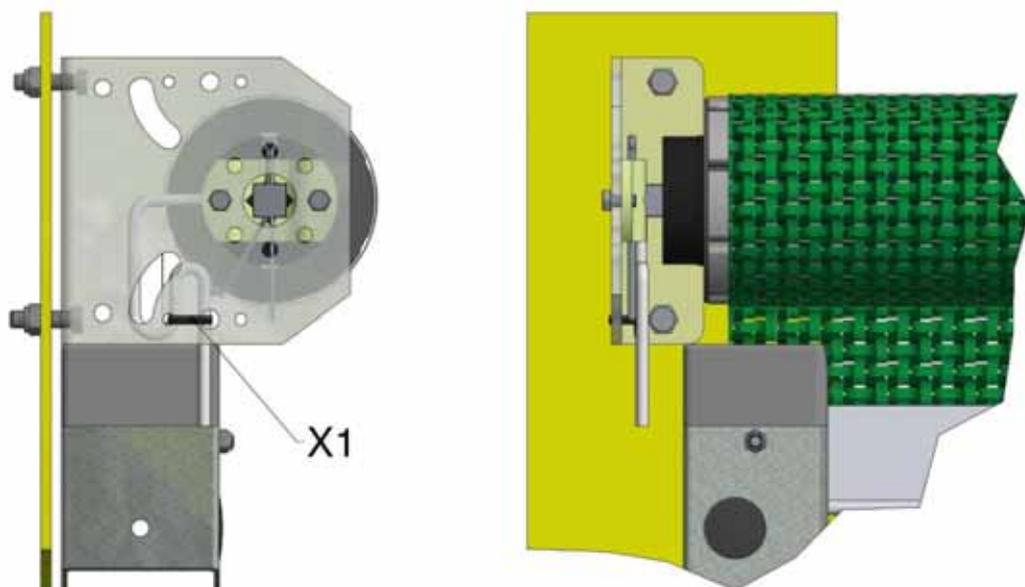

Figure 12, Securing Motor Wire
- Secure the junction box (R1), switch (Q1) and wires to the building. Ensure all wires exiting from the drive bracket, junction box and switch point down to form a drip-loop so that rain water cannot enter the motor or switch. To prevent entrapment by the lower tube, feed the cable between the top bracket and guide rail and fasten with cable-tie supplied, Figure 12.